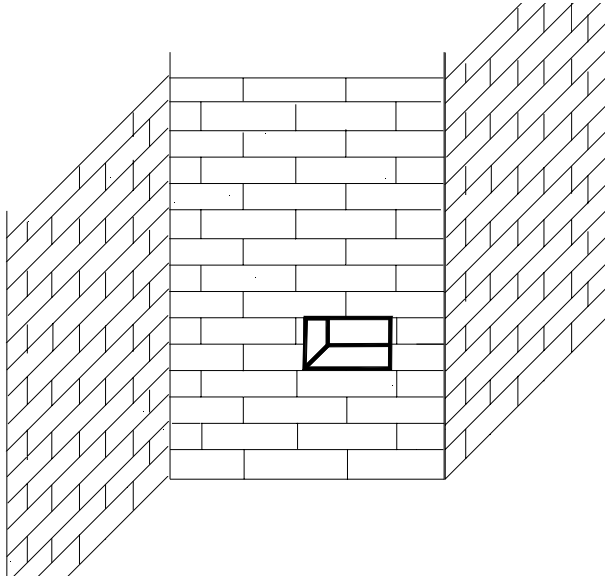

Figure 1-Preparing the Fireplace
- 14) Cut a 6" x 8" hole on the outside of the chase to allow for proper installation of the blower adapter. (see fig. 1)